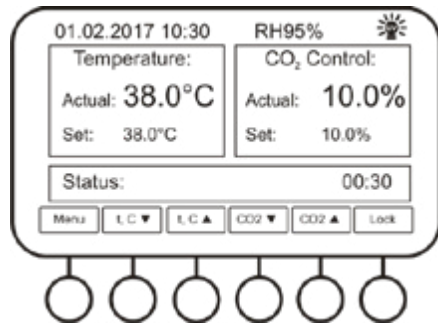

Fig. 4. UV recirculator is on
4.9.1.1 **UV Decontamination Timer.** Timer parameters are set in HH:MM format. After setting the timer, UV lamp automatically switches on, main working screen displays an UV indicator (fig. 4, top right). After set time has passed, the UV lamp automatically switches off. A timer is seen on the main working screen (fig. 4, bottom right). To manually switch the lamp off, select the **Turn Off UV** option from the submenu.